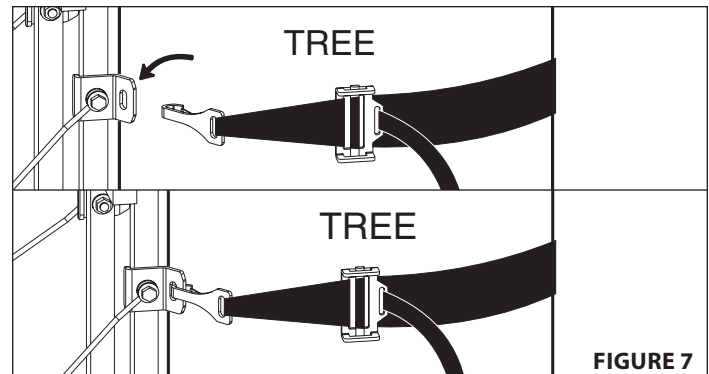

FIGURE 7
b. Take snap hook/buckle end and wrap around tree. Be sure the strap is even and at the same level all the way around the tree. Also, be sure there are no twists in the strap. Connect hook to opposite side of stand by inserting through slot provided. Be absolutely sure snap hook engages through slot of bracket and can not come off. **SEE FIGURE 7**